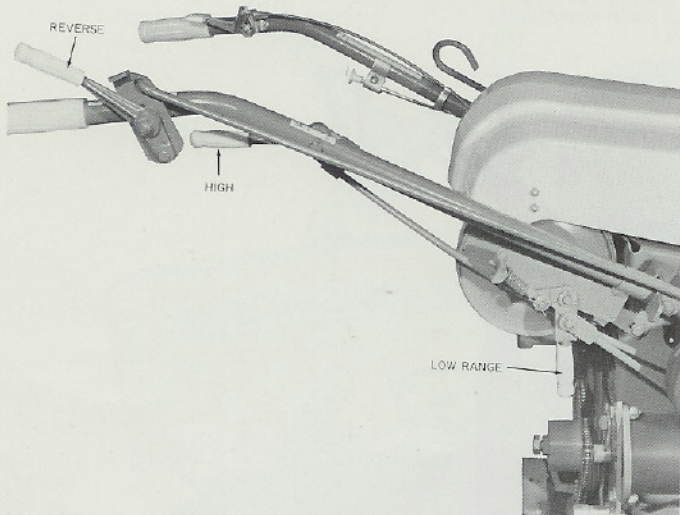
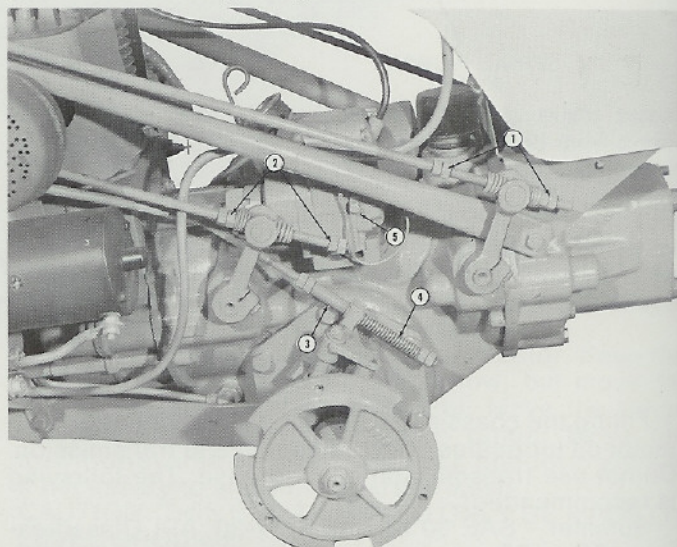

Figure 3
Figure 7
Engaging wheels - To put tractor in motion, first move the high-low control lever to either the high or low position (figure 3). Then move the forward-reverse control lever into forward or reverse. Depress the throttle to the desired speed.
- ... Ignition stop button is shorted out. To test, remove the ground wire from the magneto stop button and attempt to start the engine. See service manual or call your dealer. (See 5, figure 7.)
Clutch Rods - To adjust clutches, tighten the locknuts, 1 and 2 in Figure 7, until the clutch rod springs are compressed fully as each lever goes over center in the fully engaged position, either high or low gear or forward or reverse.
Range Selection Linkage - The toggle spring (located by the range lever) occasionally may require adjustment by tightening the hex nuts on the toggle rod until the spring is compressed to 15/16 inch (23.81 mm). Figure 3 and 4. To adjust springs, (3 and 4 in Figure 7), have the range selection lever engaged fully in high or low range, move the hex nuts (1 and 2 in Figure 7) on the spring rod until each spring is compressed 2 1/2 inches (63.5 mm).